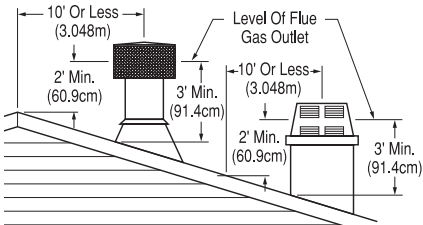

Figure 20 - 10 Foot Rule
All chimney terminations must extend a minimum of 3 feet above the highest point where it passes through the roof and must be at least 2 feet above roof with a 10 foot horizontal span (see Figure 20).
5. Add next sections of pipe until end penetrates roof line. Check to see that proper clearances are maintained. Extend chimney by adding sections of double wall pipe until pipe is minimum of 30" above highest point of roof cutout. Termination and chimney must extend a minimum of 36" above highest point where it passes through the roof (see 10-Foot Rule and Figure 20, page 9).